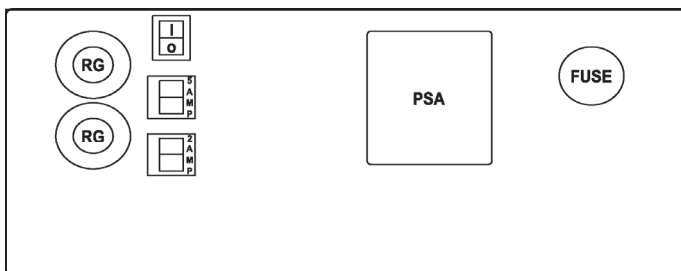

Fig.2
- 1- With disconnected loads and before to have carefully check batteries connection, insert the fuse (see fig. 2 page 21) and verify that the main AC input is disconnected through it's magnetic-thermal switch previously installed.